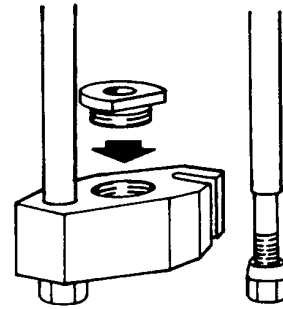

FIGURE 1
4. Measure the king pin diameter and approximate length. Select one of the four bushings included in this service tool set. The bushing must closely match the diameter of the king pin to be removed, yet allow easy passage of the king pin through the bushing. Install the bushing in the king pin pusher head as shown in Figure 1. **NOTE: You don't have to use a bushing if the king pin is larger than 1-3/4" dia.**
6. Install the brake anchor pin adapter (Item #1) in the king pin pusher head as shown in Figures 1 and 3.